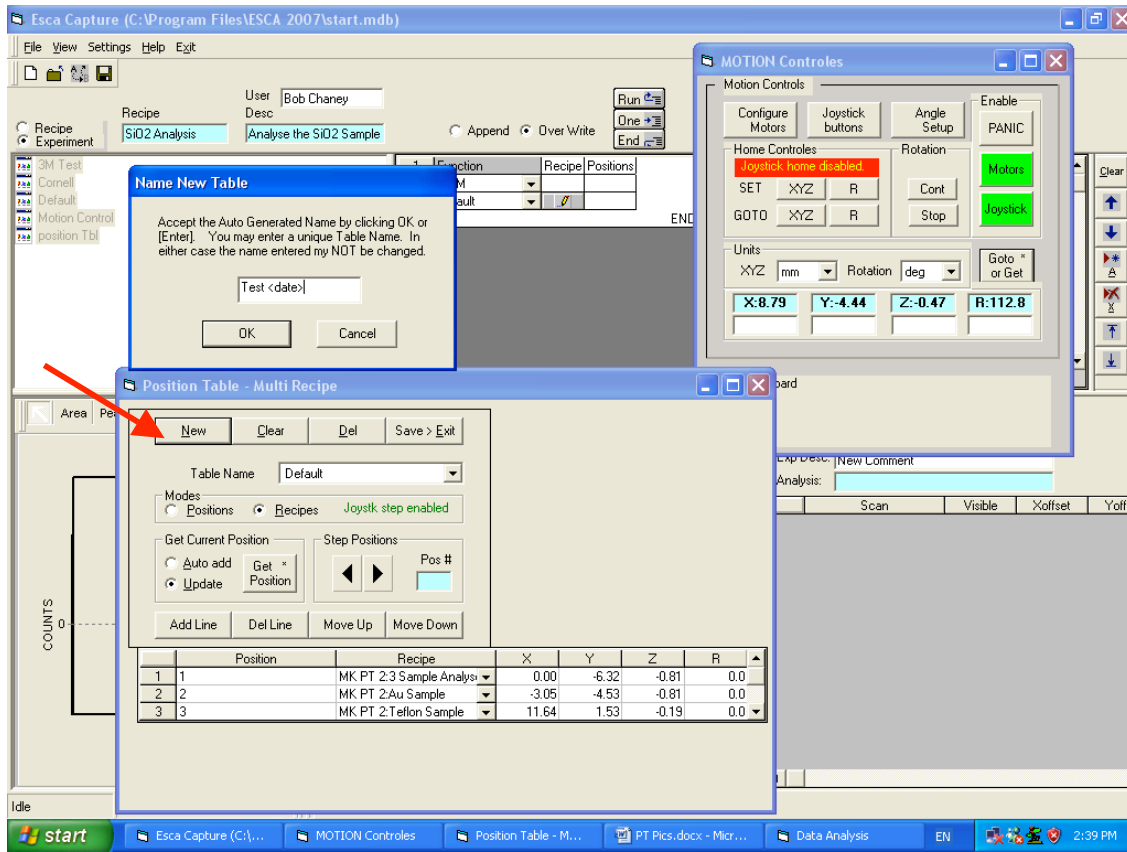

Figure 8. Clicking on the New button initiates the Name New Table dialog. Choose a name and click OK.
- 2.5 In the newly expanded *Position Table-Multi Recipe* dialog click on the *New* button and the *Name New Table* dialog appears. For a position table which will be used repetitively create a unique table name – e.g. Test <date> (Fig. 8) ^{see note 3}.